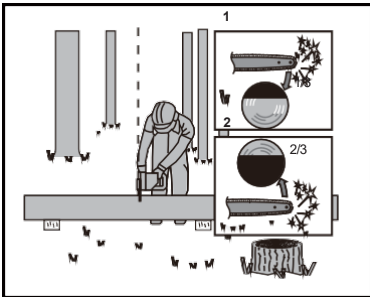

Figure 5
When the log is supported at both ends (as shown in Figure 5), begin by cutting through the top third of the log's diameter (overbucking) (1). Next, complete the cut by underbucking through the lower two-thirds, ensuring the cuts meet.